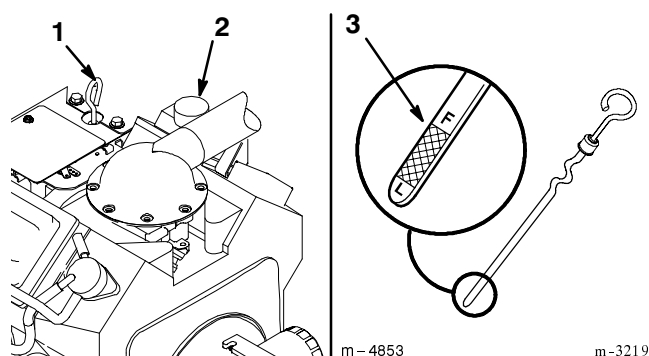

Figure 57
2. Clean around the oil dipstick (Fig. 57) so dirt cannot fall into the filler hole and damage the engine.
3. Pull the oil dipstick and wipe the metal end clean (Fig. 57).
4. Slide the oil dipstick fully into the filler tube (Fig. 57). Pull the dipstick out and look at the metal end. If oil level is low, slowly pour only enough oil into the filler tube to raise the level to the "FULL" mark.
5. Slowly pour approximately 80% of the specified oil, on page 43, into the fill opening (Fig. 57). Now check the oil level; refer to Checking Oil Level, page 43. Slowly add additional oil to bring to "FULL" mark on dipstick.